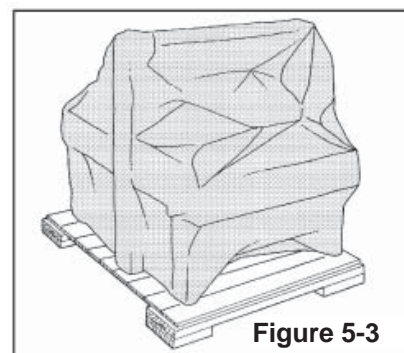

Figure 5-3
5.2 Packaging for Overseas Shipment (Optional - Figure 5-3)